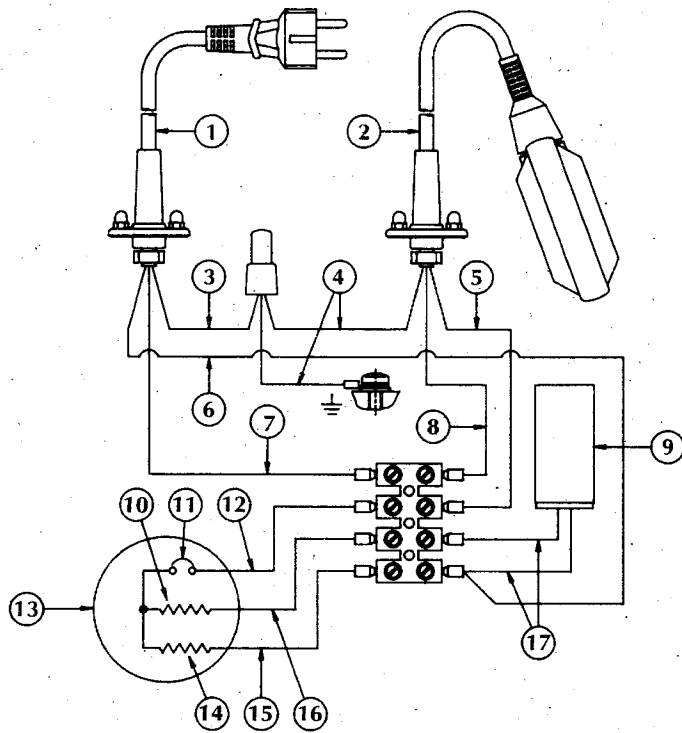

fig. 3 - Abb. 3 - fig. 3 - kuva 3 - afb. 3 - fig. 3 - εικ. 3
15.3. SCHEMA ELETTRICO ELETTROPOMPA MONOFASE CON GALLEGGIANTE (fig. 3)
15.3. WIRING DIAGRAM FOR SINGLE-PHASE ELECTROPUMP WITH FLOAT SWITCH (fig. 3)
15.3. SCHEMA ELECTRIQUE ELECTROPOMPE MONOPHASEE AVEC FLOTTEUR (fig. 3)
15.3. SCHALTPLAN EINPHASIGE ELEKTROPUMPE MIT SCHWIMMER (Abb. 3)
15.3. ESQUEMA ELECTRICO ELECTROBOMBA MONOFASICA CON FLOTADOR (fig. 3)
15.3. KRETSSCHEMA FÖR ENFAS ELPUMP MED FLOTTÖRSTRÖMBRYTARE (fig. 3)
15.3. LEDNINGSDIAGRAM FOR ENKELTFASET ELEKTROPUMPE MED FLYDEKONTAKT (fig. 3)
15.3. ELEKTRISCHE SCHEMA VAN DE MONOFASE ELEKTRA POMP MET DRIJVER (afb. 3)
15.3. ESQUEMA ELÉCTRICO DA BOMBA MONOFÁSICA COM FLUTUADOR (fig. 3)